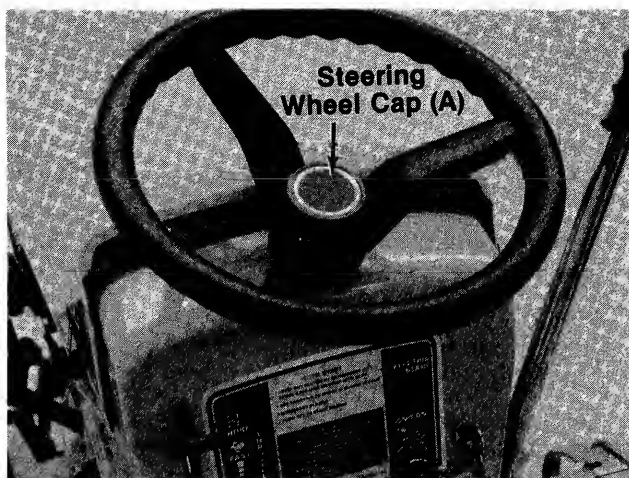

FIGURE 4.
4. Press the steering wheel cap (A) on the steering wheel by hand. See figure 4.